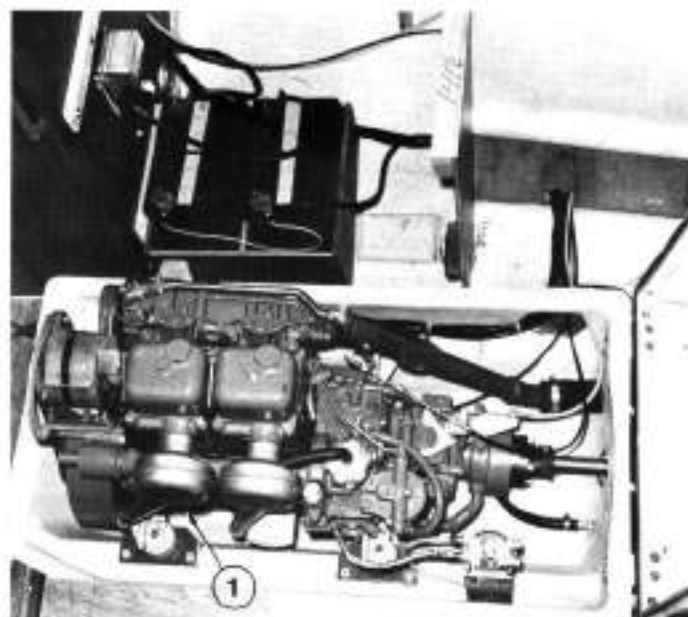

Fig. 2. Engine installation and batteries
ENGINE INSTALLATION (see fig. 2)
The MD2B engine has separate lubricating oil filling and dipstick for engine and reduction/reverse gear. See fig. 2—4.
1. Remove the helmsmans seat. Remove the floorboards and the floor over the battery box (under the helmsmans seat). Unfasten the clasps on the engine cover and fold it aft (fig. 2).